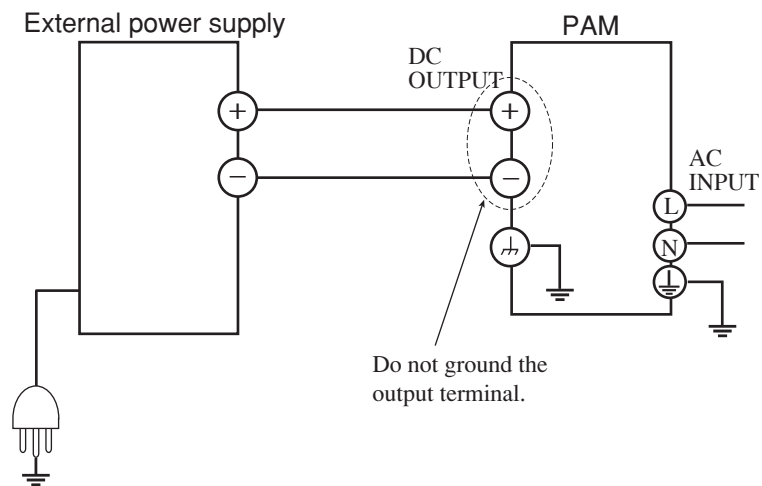

Fig. 3-7 Connection of the external power supply
3. As shown in Fig. 3-7, connect the external power supply to the unit's output terminal.